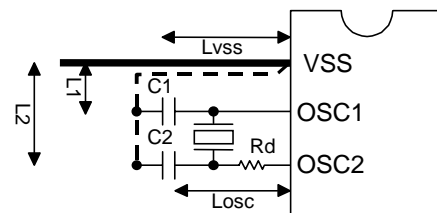

Figure 2-1. Sample Oscillation Circuit 1 (Ceramic resonator)
- When the ceramic resonator option is selected: (Figure 2-1)
- The length of the lines (L_{osc} in Fig.2-1) between the clock I/O pins (input: OSC1, output: OSC2) and the external components should be as short as possible.